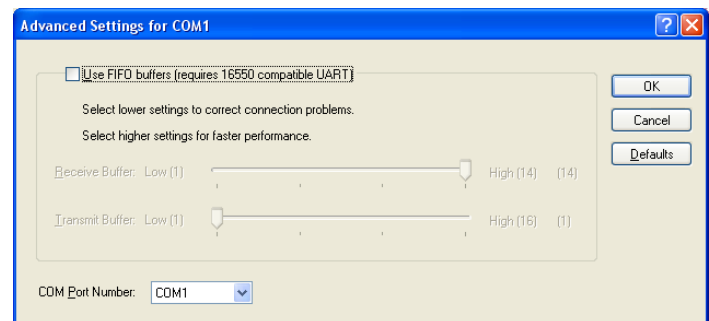

Figure 9-5: Advanced Port Settings Dialog Box
13. Next, select the Advanced button to bring up the advanced port settings dialog box shown in Figure 9-5.